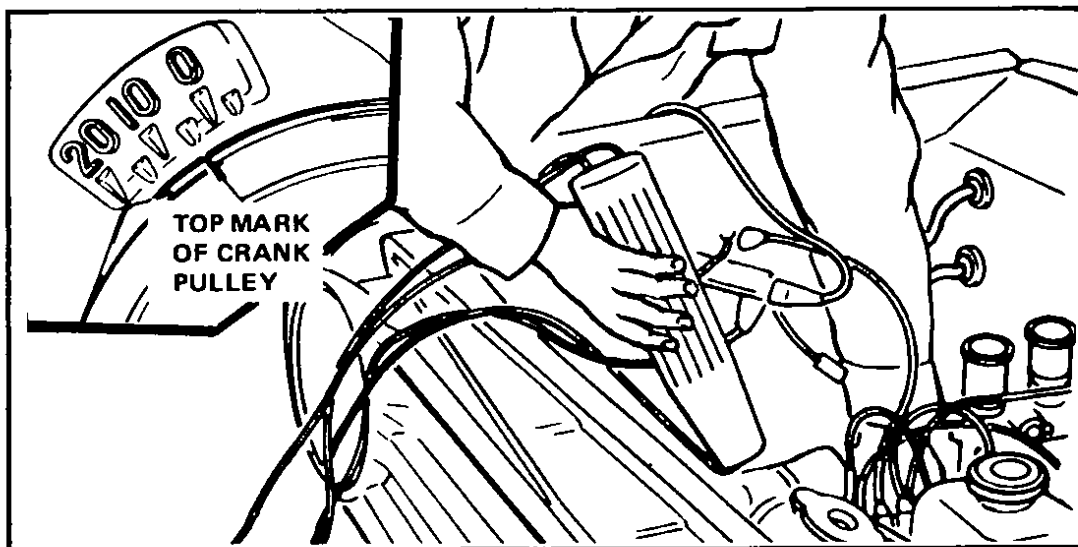

Fig 36 Adjusting timing
- 8 Point the timing light at the timing marks located on the crank pulley and cover, Fig 36. Check the dwell as indicated on the tachometer/dwell meter. If these two readings meet the specifications listed at the end of this section, stop the engine and disconnect the test equipment. If not, proceed to the following steps.